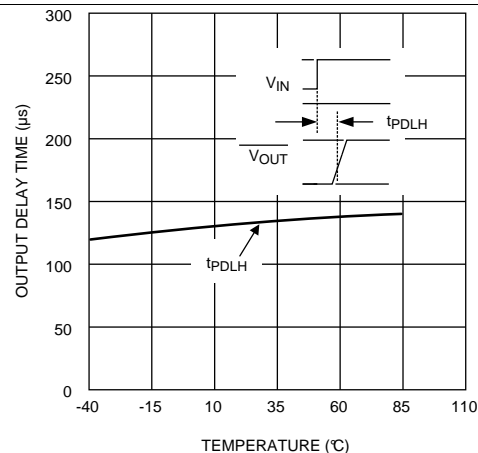

Figure 4. Propagation Delay Time (t_{PDL}) vs Temperature
* See Figure 4 for tPDHL values